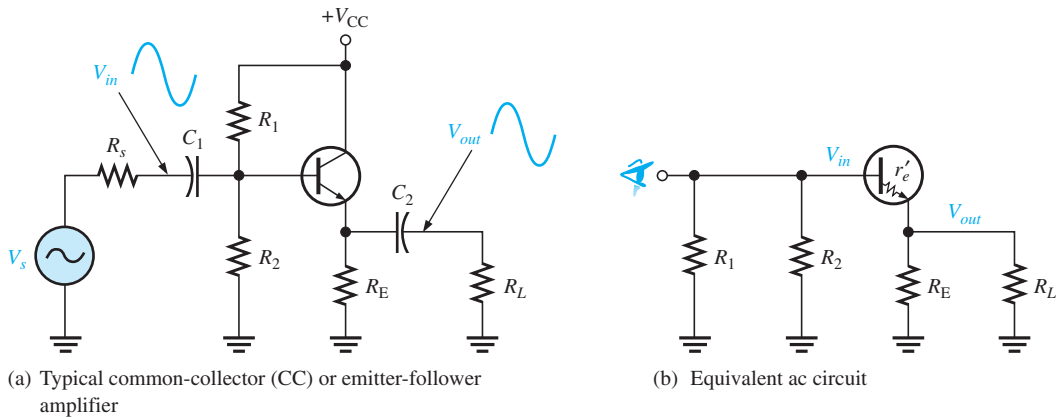
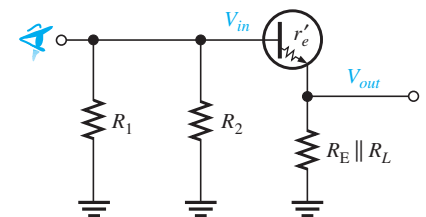

FIGURE 3-37
FIGURE 3-38 Equivalent ac input circuit for the CC amplifier.
Figure 3-37(a) shows a **common-collector (CC)** circuit with a voltage-divider bias. The collector is connected directly to the dc power supply, which is an ac ground. Notice that the input is applied to the base and the output is taken from the emitter. The output signal is in phase with the input signal. Looking from the input coupling capacitor to the base, the equivalent ac circuit has the bias resistors and the resistors in the emitter circuit as shown in Figure 3-37(b).
The ac circuit of Figure 3-37(b) can be simplified by combining the parallel emitter and load resistors into one equivalent resistor ($R_E \parallel R_L$), as shown in Figure 3-38. This circuit is used to analyze the voltage gain of the CC amplifier.
As in all linear amplifiers, the voltage gain in a CC amplifier is $A_v = V_{out}/V_{in}$. In the analysis of the gain, the bias resistors are not included because they do not directly affect the input signal (although they do cause a loading effect on the source). Notice in Figure 3-38 that the input voltage is across r'_e in series with $R_E \parallel R_L$. The output is across only $R_E \parallel R_L$. As long as r'_e is small compared to $R_E \parallel R_L$ (the usual case), you can ignore the small drop across r'_e . This means that the input and output voltages are nearly the same. Therefore,